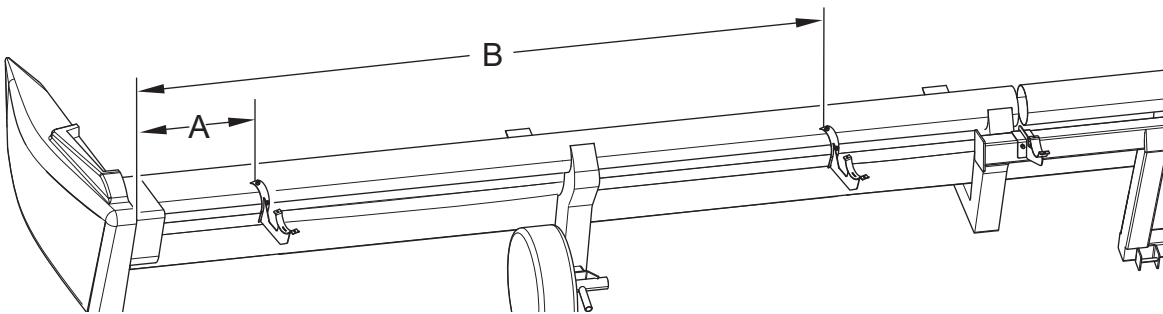

Figure 61: Left hand tube clamp locations
7. Refer to Figure 19, page 18, and Figure 61 dimensions A and B for tube mount location and orientation. Using a mount clamp as a template, measure from the left hand inside edge of the header and mark and drill two 9/32" holes. Install the tube mount using two 11/32 X 7/8" screws.
8. Set the 141" center tube **(3)** on the center tube mounts **(1)** over the feeder house and secure each end with a u-bolt and two 5/16" nuts and washers. Position as shown in Figure 61, page 39.